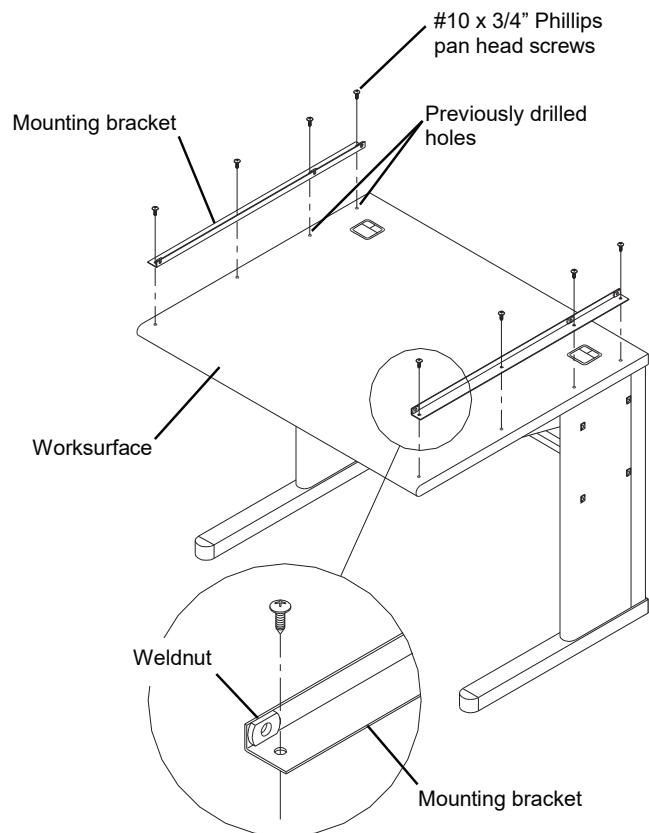

Figure 3
2. Position a **Mounting Bracket** at each corner of the worksurface, carefully noting the location of the weldnuts. Install four #10 x $\frac{3}{4}$ " Phillips pan head screws provided into the previously drilled holes. See figure 3.